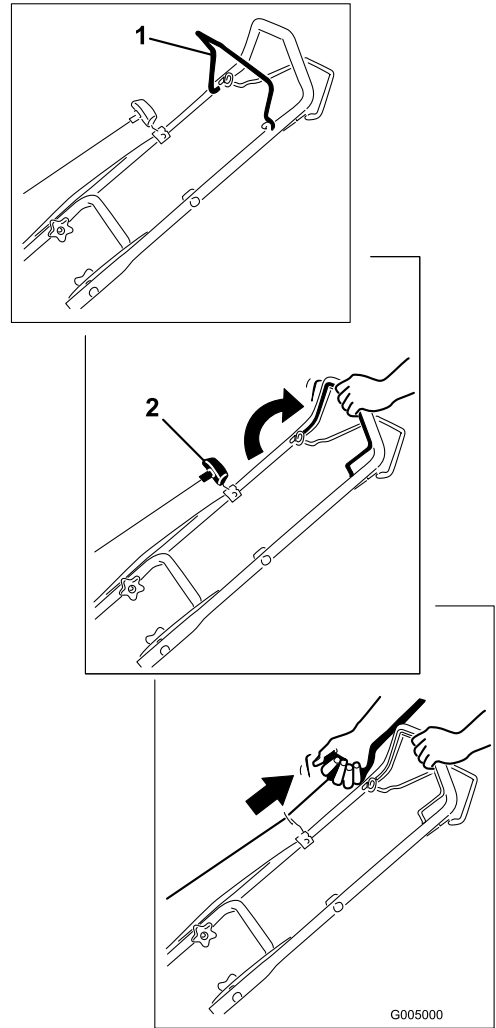

Figure 13
2. Hold the blade control bar against the handle and pull the recoil start handle (Figure 13).